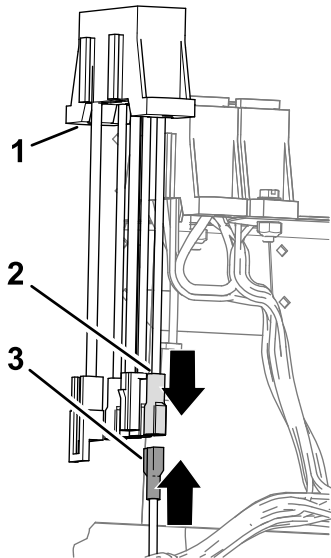

Figure 22
- 1. Connect the blade connector of the wire harness for the finishing kit to the socket connector of the auxiliary-fuse block (Figure 22).